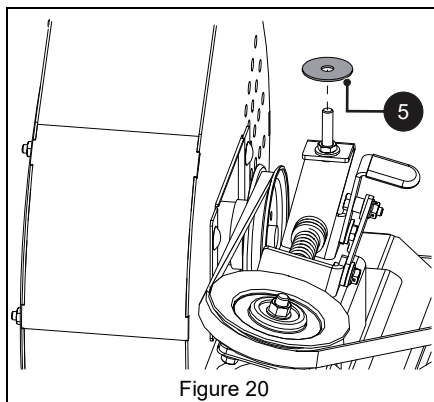

Figure 20
1. Install one 3/8" x 1 1/2" flat washer (item 5) on belt cover bolt on blower assembly. See Figure 20.